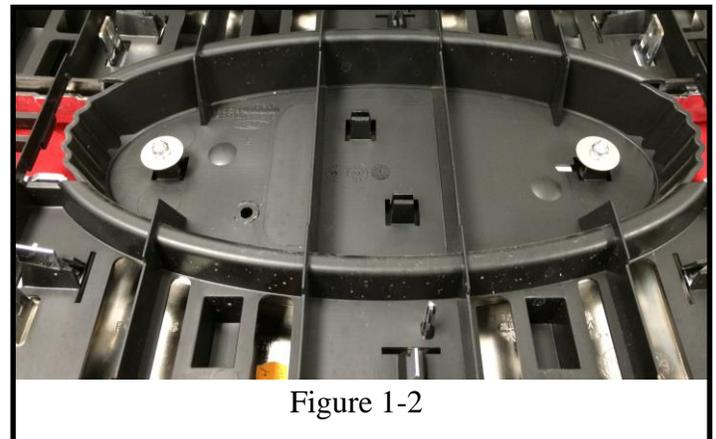

Figure 1-2
9. Insert emblem into the grille as demonstrated in figure 1.2